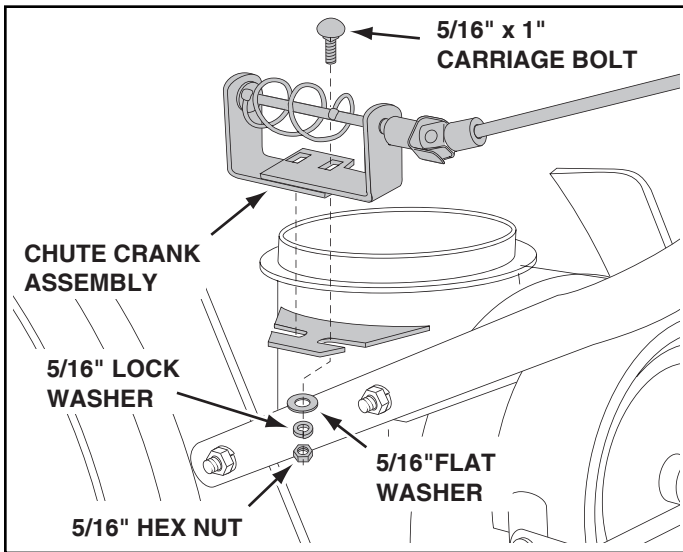

FIGURE 18
- Attach the chute crank assembly to the plastic bracket on the left side of the thrower housing as shown in figure 18. Use two 5/16" x 1" carriage bolts, 5/16" flat washers, 5/16" lock washers and 5/16" hex nuts. **Do not tighten yet.**